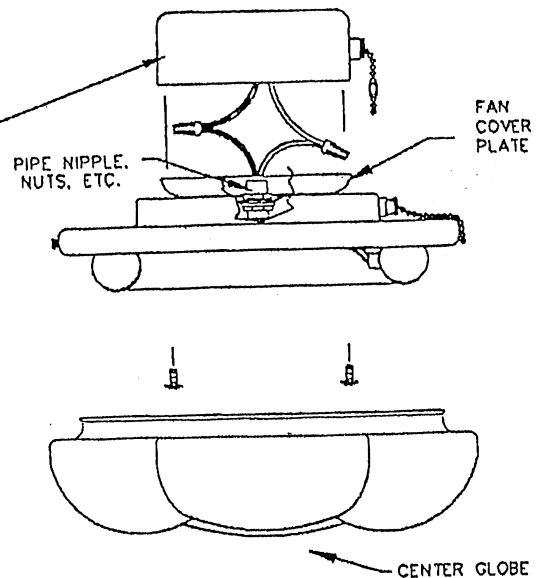

FIGURE 2.
- 2B. ASSEMBLE THE FAN COVER PLATE TO THE LIGHT KIT AS SHOWN IN FIGURE 2. USE THE PIPE NIPPLE AND NUTS PROVIDED. THEN FOLLOW THE DIRECTIONS IN STEP 2A ABOVE TO ATTACH LIGHT KIT TO FAN.
4. HAND TIGHTEN ALL THUMB SCREWS SECURELY. SEE FIG. 2. RESTORE POWER TO FAN TO COMPLETE INSTALLATION.